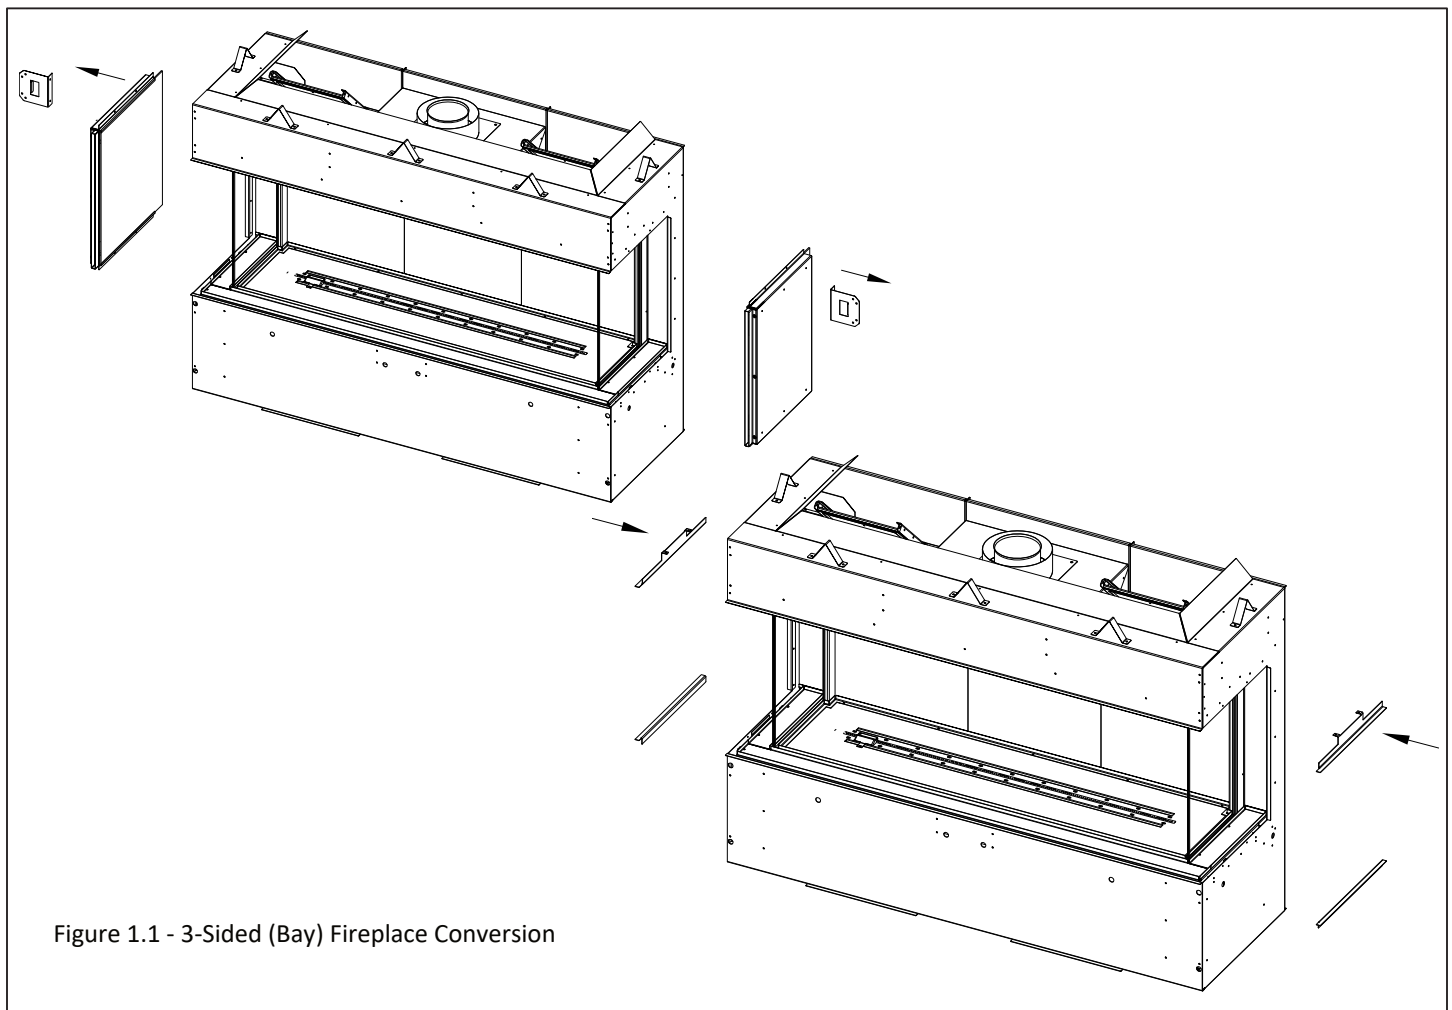

Figure 1.1 - 3-Sided (Bay) Fireplace Conversion
Figure 1.1 shows the full conversion process for both sides of the fireplace. If you want a corner fireplace then only remove the block off plate for the side of the fireplace you want visible and perform the conversion to that side. For a three-sided (Bay) fireplace then follow all instructions to complete the conversion on both sides.
1. Remove and discard the nailing flanges and side block off plates for one or both sides depending on your installation choice. See Figure 1.1. Save these screws for Step 2.
2. Install the top finishing edge bracket. Please note that the kit comes with a left and right top finishing edge bracket. Use the bracket for the side you are converting and discard the trim piece that is not used. The top finishing edge bracket fits in the fireplace between the outer shell and the top glass retention bracket. This top finishing edge bracket is installed by securing it to the inside of the fireplace via (2) sheet metal screws.